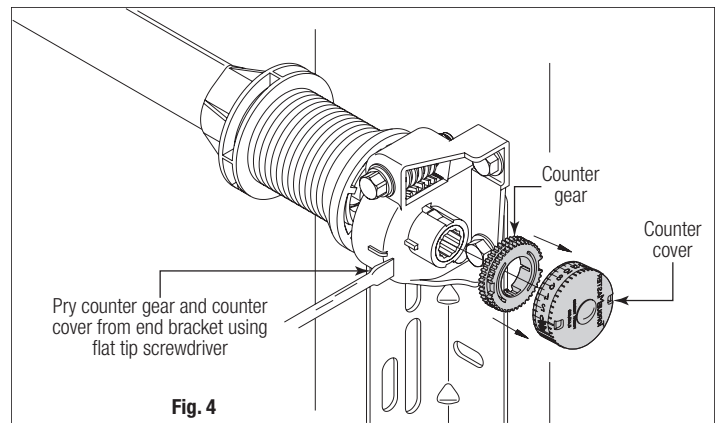
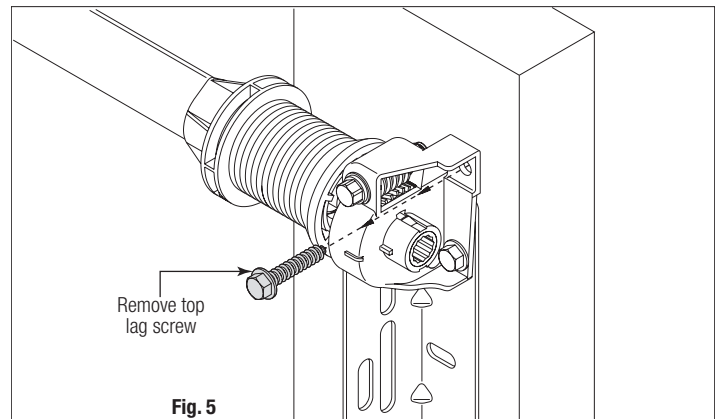
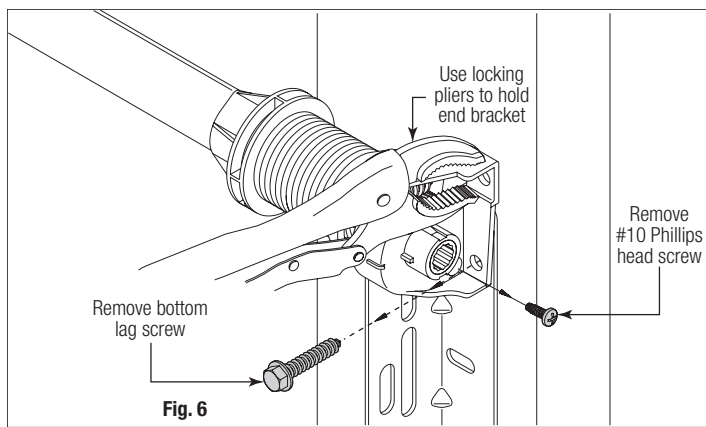

Fig. 4
Fig. 5
Fig. 6
**STEP 4:** Starting on the right hand side and using a flat tip screwdriver, pry the counter gear and counter cover from the right hand end bracket (Fig. 4). Discard the counter gear and counter cover. Remove the upper 5/16" x 1-5/8" lag screw from the right hand end bracket (Fig. 5). Next, attach locking pliers to the upper portion of the end bracket and hold the end bracket steady while removing the lower 5/16" x 1-5/8" lag screw and the #10 x 1/2" phillips head screw from the right hand end bracket (Fig. 6).